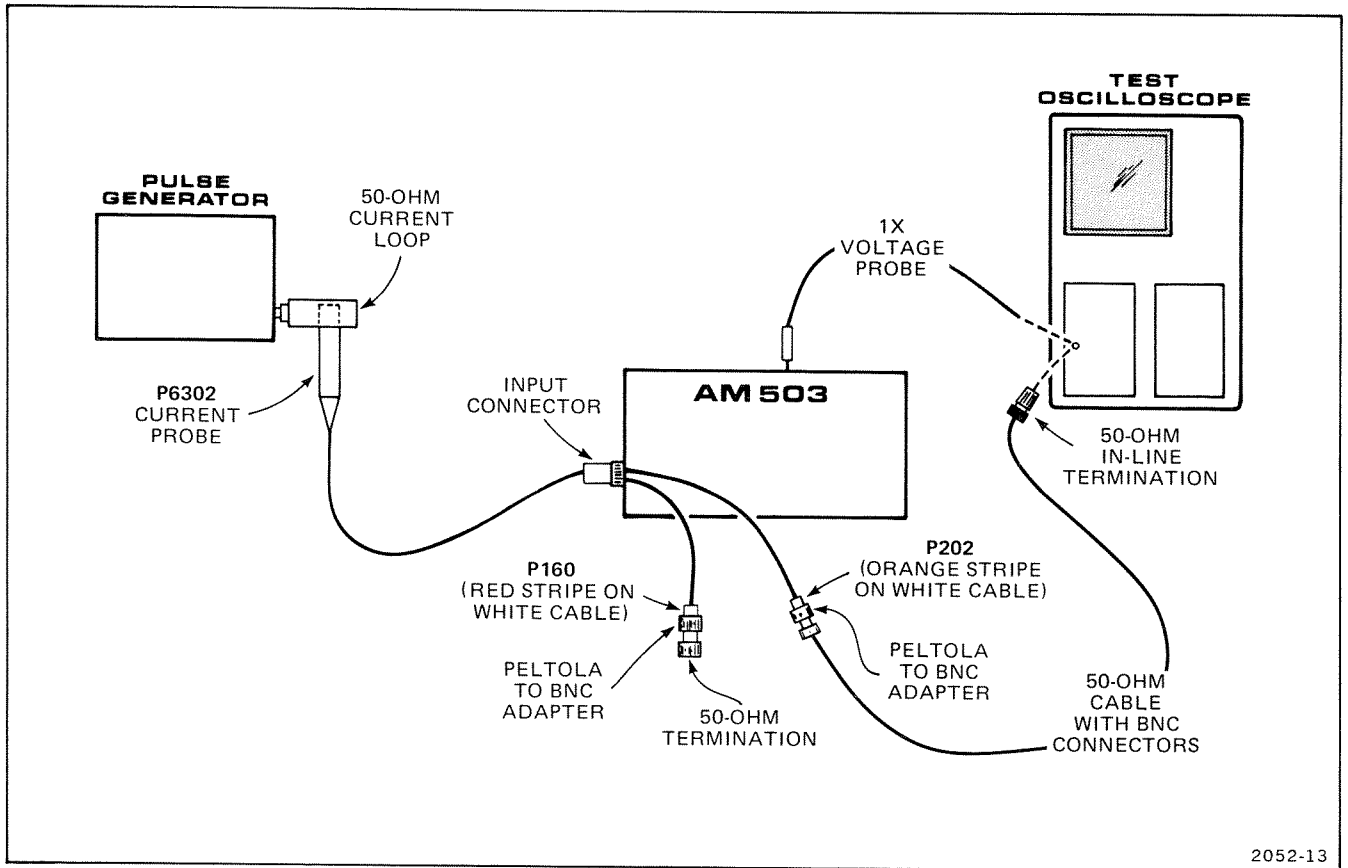

Fig. 4-5. Test setup to check P6302 Current Probe.
- a. Set up the test as shown in Fig. 4-5. Set pulse generator frequency to 1 KHz and peak amplitude for 100 mA into the 50-ohm current loop.
- f. Connect X1 voltage probe (from test oscilloscope vertical input) to pin 6 of U110 (see Fig. 4-5).